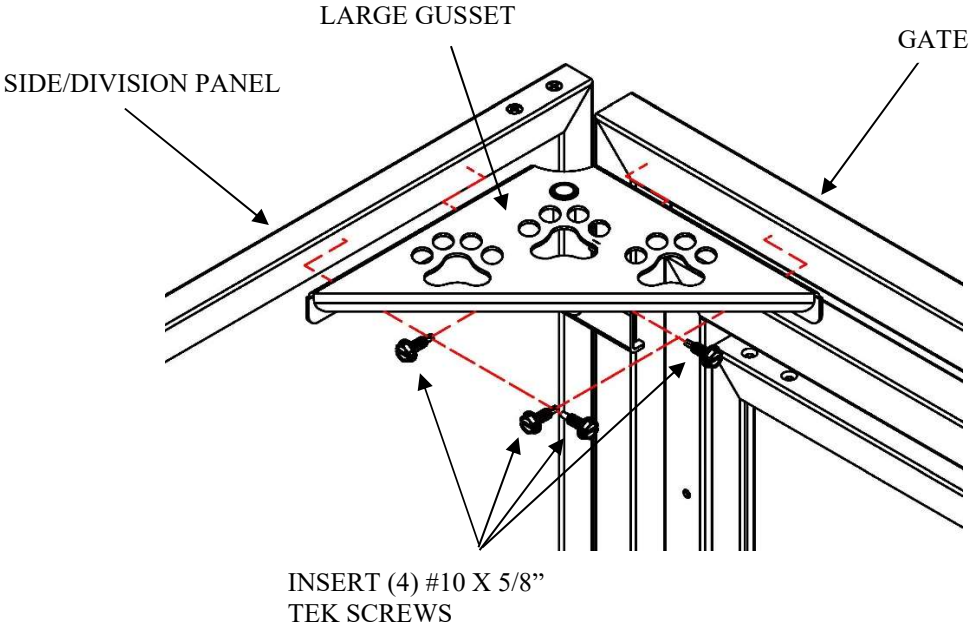

Figure 16
3. Moving to the front of the kennel, use the previous method and supplied Tek screws to attach a large gusset to the side panel and gate. See Figure 16.